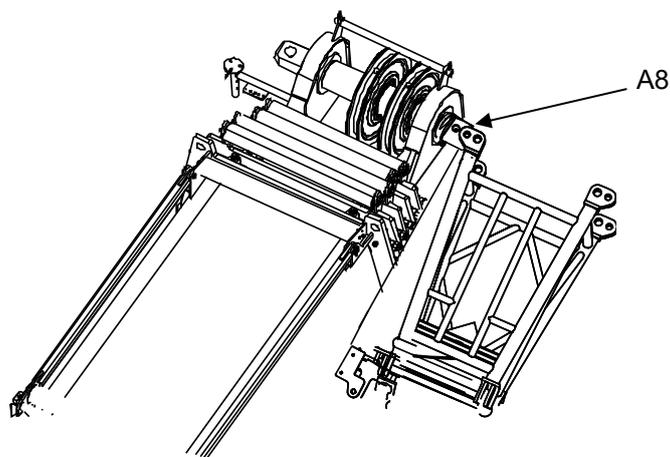

Figure 5-6 Move the jib
- h) Move the jib to overlap at point A8. Refer to Figure 5-6.